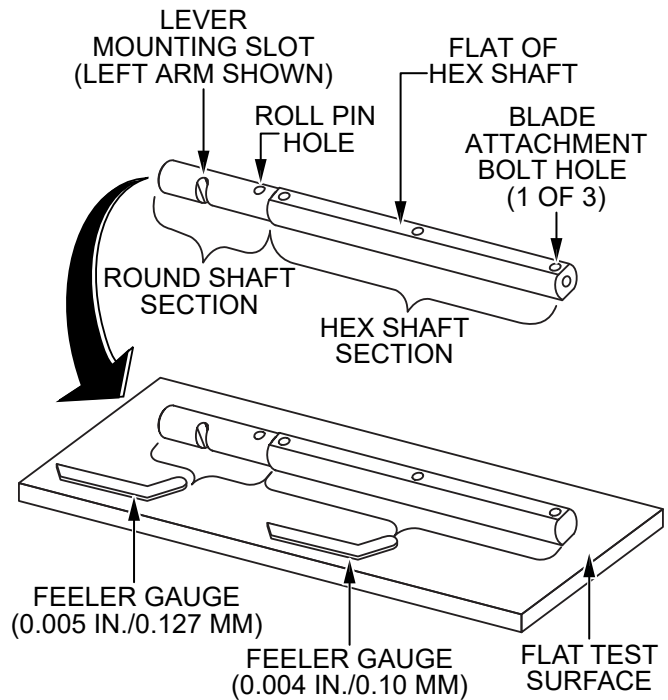

Figure 83. Checking Trowel Arm Straightness
1. Place the trowel arm onto a thick steel plate, granite slab, or any other surface which is flat and true (Figure 83).
2. Check each of the six sides of the trowel arm hex shaft section (Figure 83). A feeler gauge of 0.004 in. (0.10 mm) should not pass between the flat of the trowel arm and the test surface along its length on the test surface.
3. Check the clearance between the round shaft and the test surface as one of the flat hex sections of the arm rests on the test surface (Figure 83). Rotate the arm to each of the flat hex sections and check the clearance of the round shaft. Use a feeler gauge of 0.005 in. (0.127 mm). Each section should have the same clearance between the round of the trowel arm shaft and the test surface.